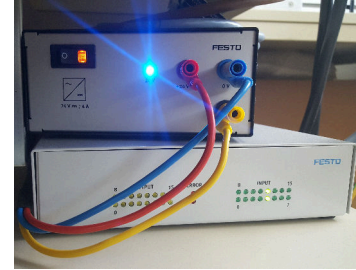

Figure 2: I/O Extender
The robot is a 6 axis industrial robot. It executes programs stored on the controller and written in MELFA Basic V. For handling the work pieces (see section 1.4), a pneumatic gripper (see section 1.1.3) with a simple optical sensor is attached to the robot. For connecting the sensors and actuators from the two FESTO modules, an external I/O extender (figure 2) was added. The robot can be used without a program in manual operation mode, using the Teaching
- **Check input and write outputs:** To check the inputs, make sure that the I/O extender is switched on (see figure 2). Then press the *MONITOR* button on the Teaching Box. And select *INPUT* with the *EXE* button. Now one sees the inputs 0-31. Table 1 shows where each sensor is connected. Trigger each sensor and check if the status of the bit on the Teaching Box changes. To check the *ColorSensor* on the gripper one has to press *NUMBER (F1)* and enter the number 900. Now one sees the inputs from 900 to 931. By triggering the *ColorSensor* on the gripper one should see a change on bit 900. If no change can be observed, one has to set the register *HIOTYPE* to 0 to activate the sensor.